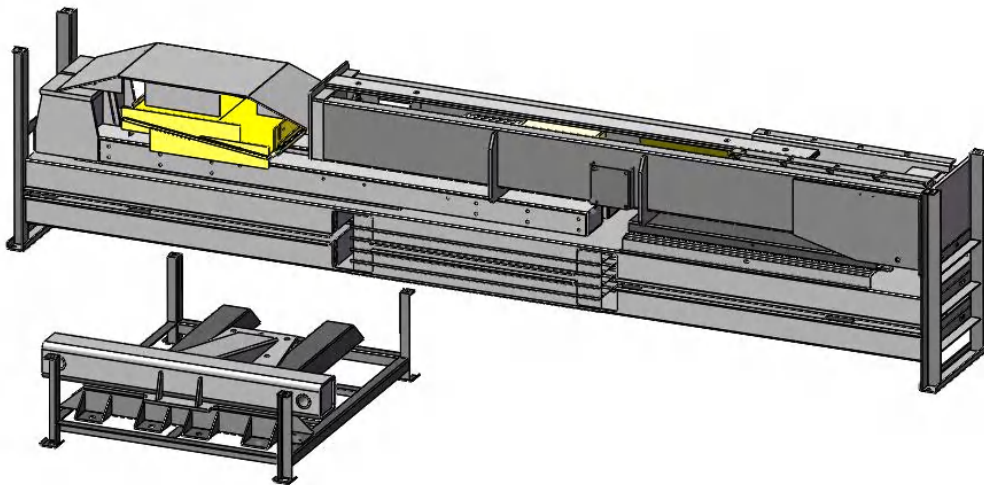

Fig.7
1. Whole set of one unit (Packaged lift and hydraulic power unit). **(See Fig. 7)**